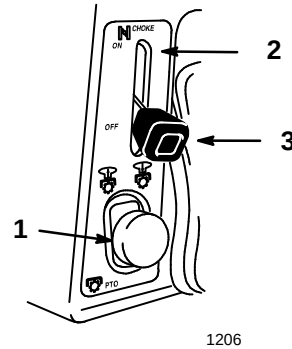

Figure 4
5. Move the choke lever to “ON” (Fig. 4).
6. Move the throttle lever to “FAST” (Fig. 4).
8. After the engine starts, move the choke lever to “OFF” and slowly move the throttle lever to “FAST” (Fig. 4). If the engine stalls or hesitates, move the choke lever back to “ON” for a few seconds. Then move the throttle lever to “FAST.” Repeat this as required.
1. Move the throttle lever to “SLOW” (Fig. 4).